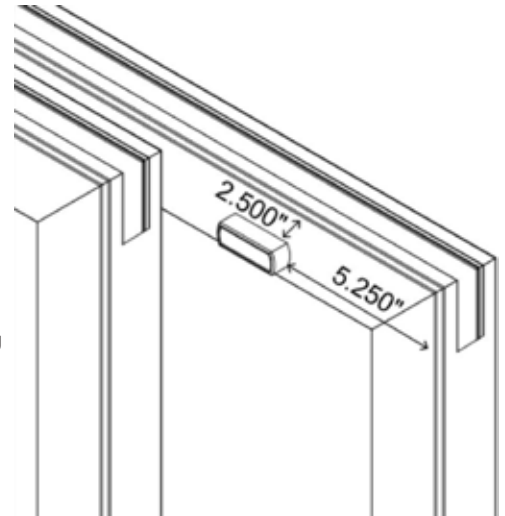

Figure 28
1. **Predrill** two 11/64" (0.171") pilot holes on the inside of each operable panel 5-1/4" in from the right side of the panel and 2-1/2" down from the top of the panel to the edges of the come-along base (Figure 28). Attach the panel come-along (Item 35) using two screws (Item 44). Snap the panel come-along cover over the come-along base.
WARNING: Do not install panel come-alongs in any other area than shown in Figure 28; doing so could cause damage to the frame or glass. Using longer screws can cause interference or operational problems.